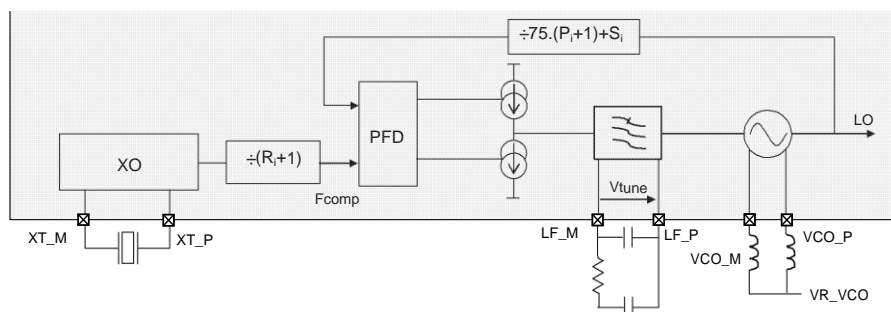

Figure 5: Frequency Synthesizer Description
The crystal oscillator (XO) forms the reference oscillator of an Integer-N Phase Locked Loop (PLL), whose operation is discussed in the following section. Figure 5 shows a block schematic of the RFM63B PLL. Here the crystal reference frequency and the software controlled dividers R, P and S determine the output frequency of the PLL.
As shown in Figure 5 the PLL structure comprises three different dividers, R, P and S, which set the output frequency through the LO. A second set of dividers is also available to allow rapid switching between a pair of frequencies: R1/P1/S1 and R2/P2/S2. These six dividers are programmed by six bytes of the register MCPParam from addresses 6 to 11.